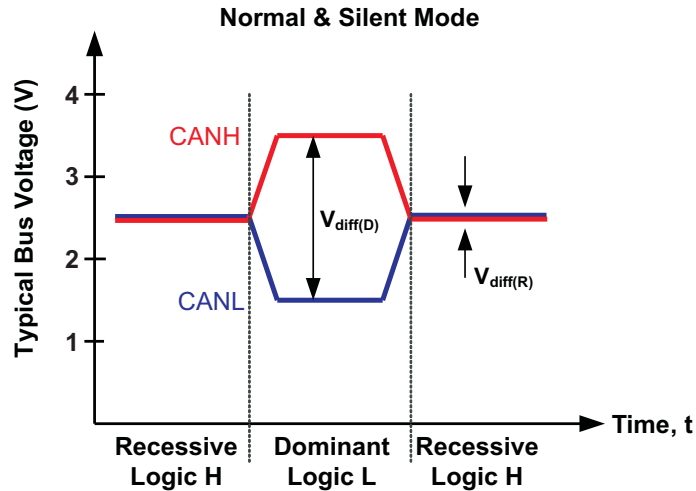
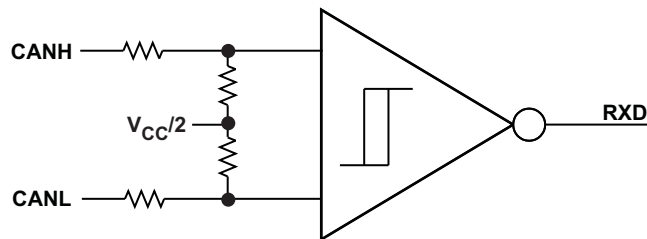

Figure 15. Bus States (Physical Bit Representation)
Figure 16. Simplified Recessive Common Mode Bias and Receiver
- (1) H = high level, L = low level, X = irrelevant, Z = common mode (recessive) bias to $V_{CC} / 2$. See Figure 15 and Figure 16 for bus state and common mode bias information.
- (2) Devices have an internal pulldown to GND on S pin. If S pin is open the pin will be pulled low and the device will be in normal mode.
- (3) Devices have an internal pullup to V_{CC} on TXD pin. If the TXD pin is open the pin will be pulled high and the transmitter will remain in recessive (nondriven) state.
The CAN bus has two states during powered operation of the device: *dominant* and *recessive*. A dominant bus state is when the bus is driven differentially, corresponding to a logic low on the TXD and RXD pin. A recessive bus state is when the bus is biased to $V_{CC} / 2$ via the high-resistance internal input resistors R_{IN} of the receiver, corresponding to a logic high on the TXD and RXD pins. See Figure 15 and Figure 16.